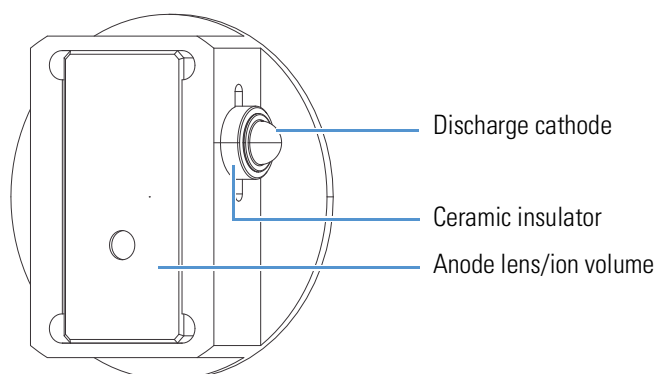

Figure 8-5. Calibrant ion source (front view)
1. Make sure that the discharge cathode is fully inserted into the ceramic insulator (Figure 8-5).